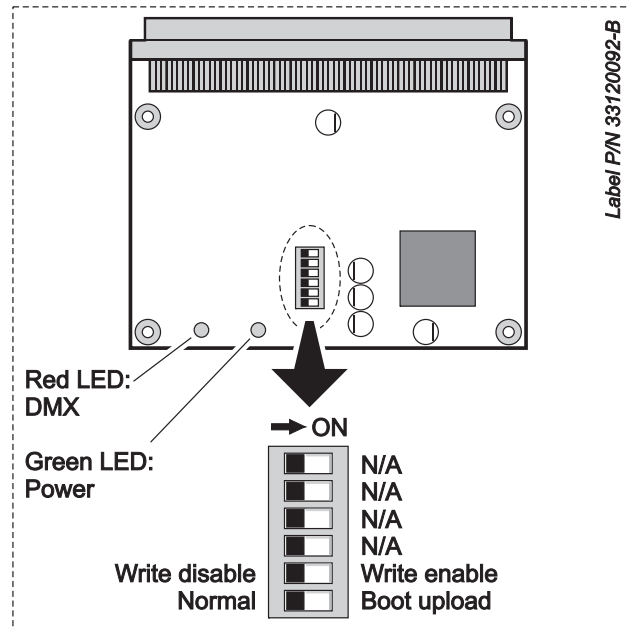

Figure 21: Main PCB and DIP switch
3. See Figure 21. Locate the 6-pin DIP-switch on the PCB and move pin 6 to **ON** (boot mode upload enable).